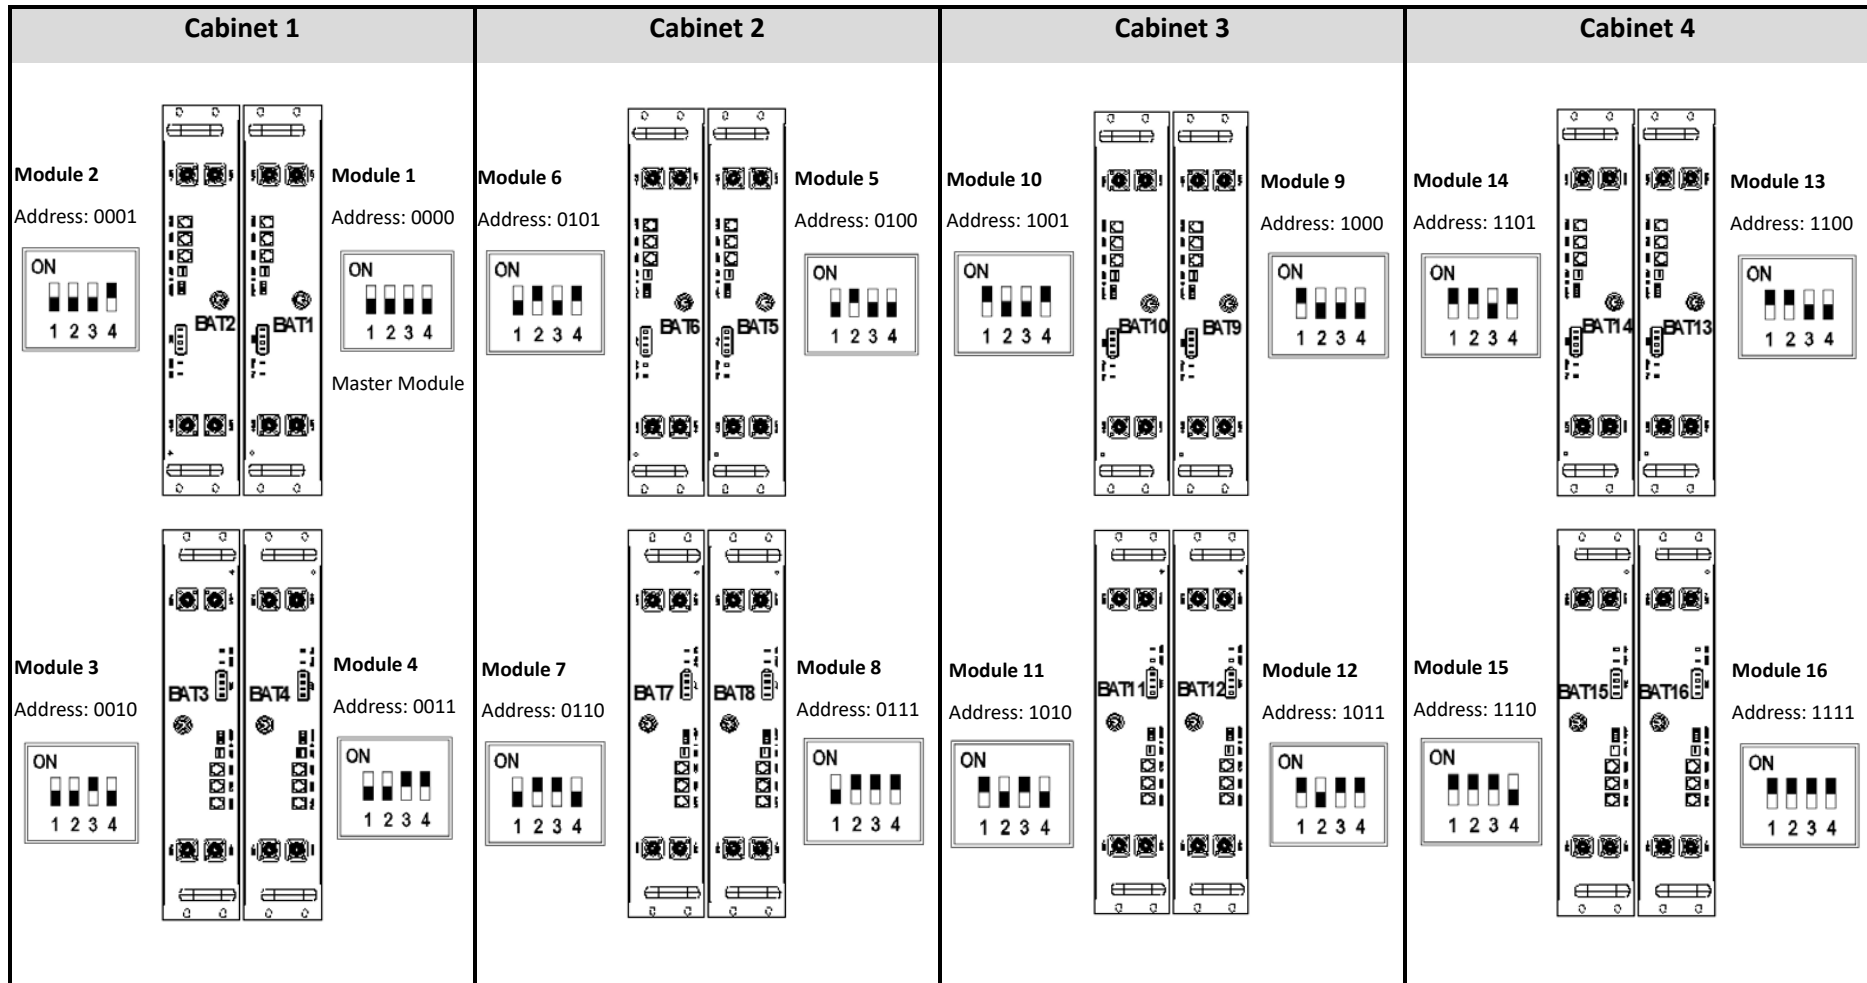

Figure 6-9 Parallel Cabinet Address Setting Diagram
(2) When using parallel cabinets, remove the 6 screws on the side door of Cabinet-2/3/4 with a screwdriver, and set the DIP switch address of the battery module according to Figure 6-9. After address setting, reattach the side door.